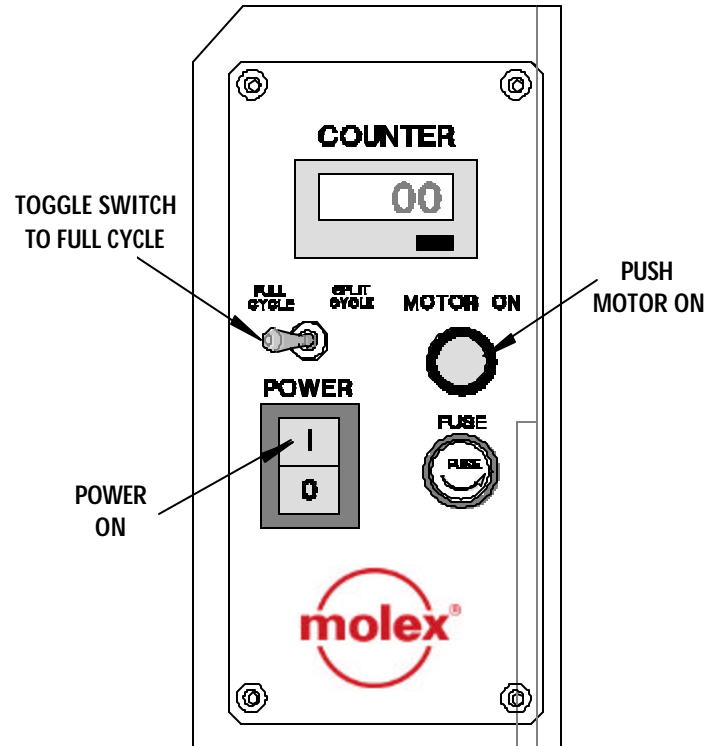

Figure 3-5
1. Push the toggle switch on the control panel to "Full Cycle". See Figure 3-5.
The split cycle is used mostly for closed barrel terminals. This makes it easier to locate the terminal before crimping the wire. The punch/ram will close partially to assist in locating the terminal for the termination. Then the wire can be placed into the terminal and be terminated. To setup the machine for split cycle push the toggle switch on the control panel to "Split Cycle". See Figure 3-5.